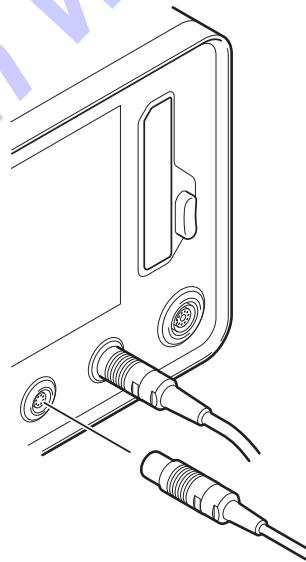

Figure 122 – Hand Controller Removal
1. Disconnect the hand controller from the console (Figure 122).